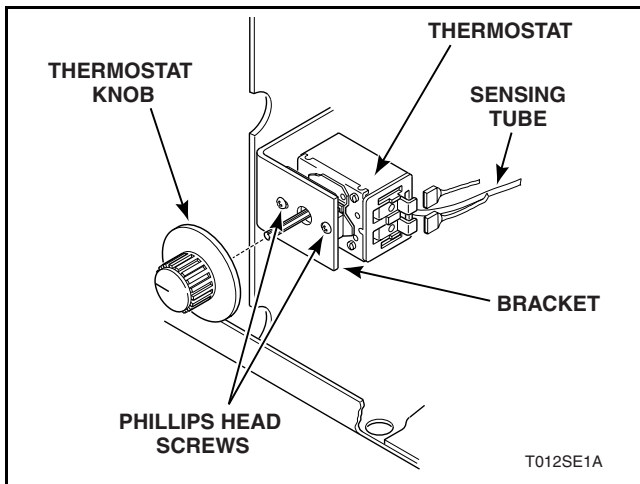

Figure 16
- Pull thermostat knob off thermostat shaft. Refer to *Figure 16*.
- Remove two screws holding thermostat to mounting bracket. Refer to *Figure 16*.